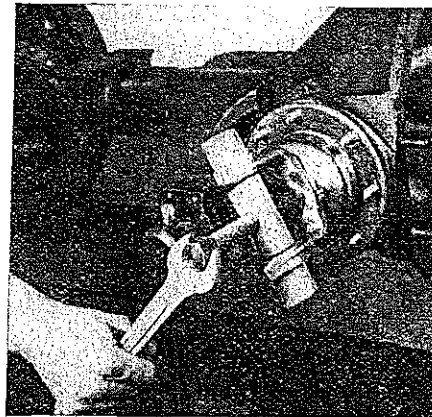

Fig. 163 Insert puller through yoke and remove
2. Insert puller through yoke, Fig. 163, and remove.